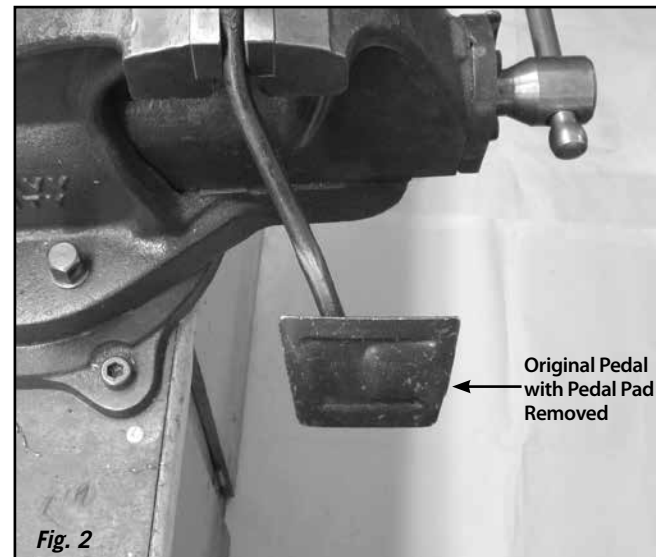

Fig. 2
**Step 1:** Remove the stock rubber cover from the clutch or brake pedal. Clean the original steel pedal pad to remove any rubber or glue residue. Fig. 2